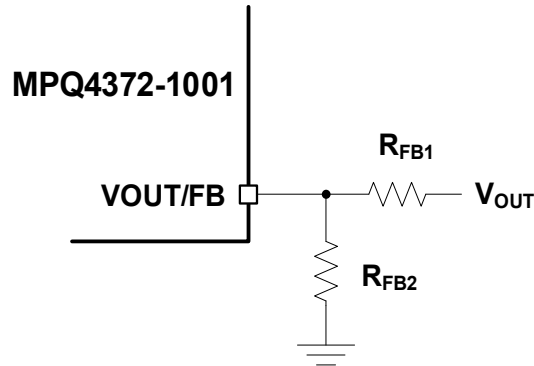

Figure 1: Feedback Divider Network for the Adjustable-Output Version
7. To use the enable (EN) function, apply a digital input to the EN pin. Drive EN above 1V to turn the regulator on; drive EN below 0.85V to turn it off. If the EN function is not used, connect EN directly to VIN.
8. The feedback voltage (V_{FB}) is typically 0.6V for the adjustable-output version. The external resistor divider connected to FB sets the output voltage (V_{OUT}) (see Figure 1). To work in a multi-phase topology, the VOUT/FB pins of the devices must be connected directly or through feedback (FB) resistors.